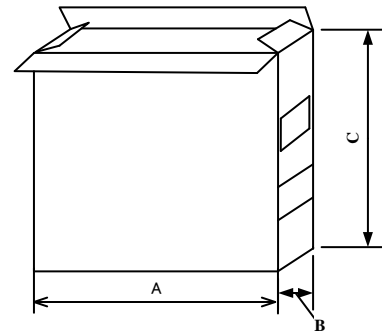

Fig.9.2.3-3
3)Marking on outer case (see Fig.9.2.3-5~7 ):